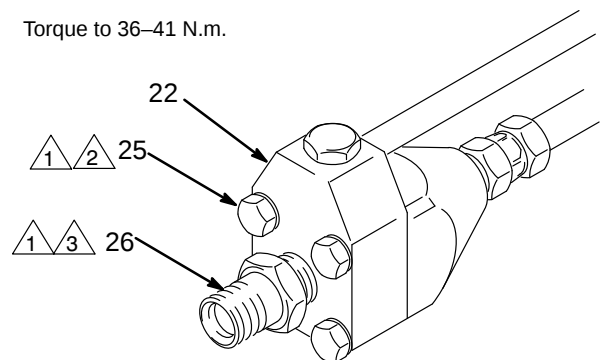

Fig. 5 0273
10. **After the first 3 to 5 hours of operation** torque the four screws (25) on the bottom of the paint pump (22) to 19–23 N.m. See Fig. 5.
11. **Also torque** the inlet valve (26) to 36–41 N.m.